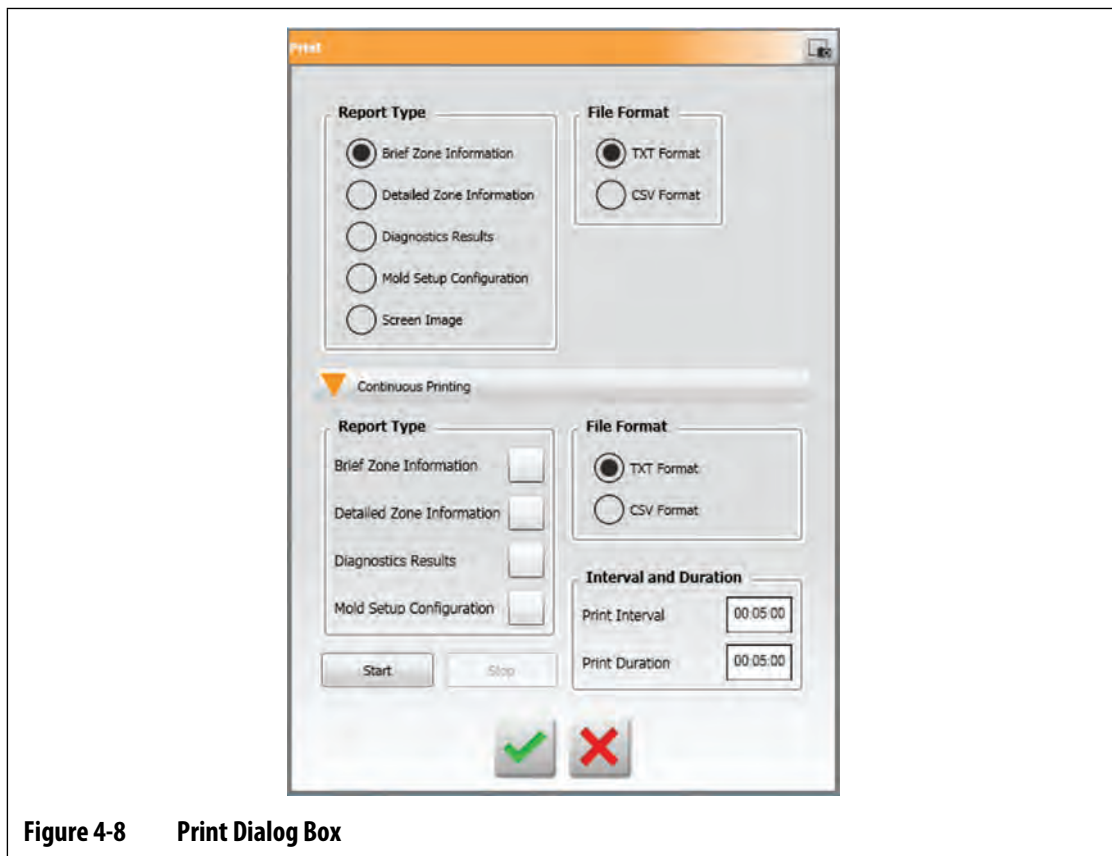

Figure 4-8 Print Dialog Box
2. Touch the **Continuous Printing** button on the Print dialog window. Refer to Figure 4-8.